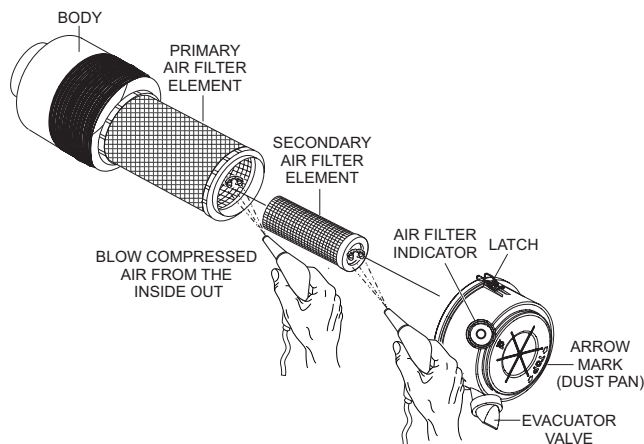

Figure 59. Engine Air Cleaner
**Every 250 hours:** Remove the air cleaner elements (Figure 59) and clean the heavy-duty paper element with a light spray of compressed air.
1. Release the latches (Figure 59) that secure the cover to the air cleaner body.
6. To clean the primary element (paper air filter) as referenced in Figure 59, tap the filter element several times on a hard surface to remove dirt, or blow compressed air, not to exceed 30 psi (207 kPa, 2.1 kgf/cm2), through the filter element from the inside out.